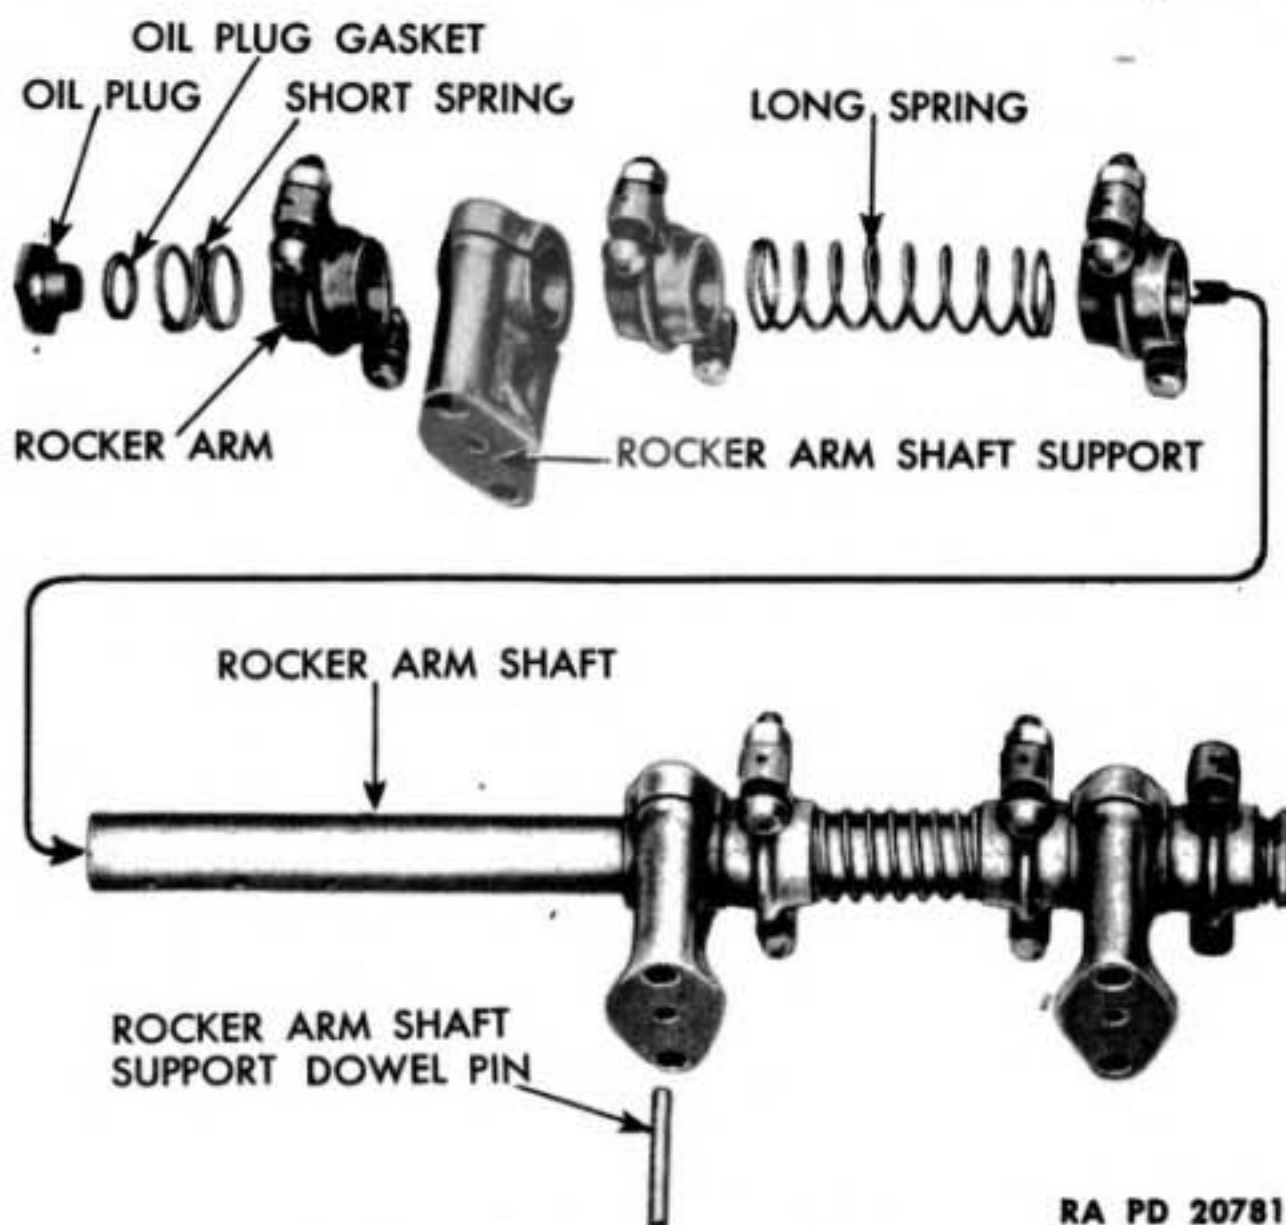

Figure 49 — Rocker Arm Shaft Components
a. **Disassemble.** Remove hexagonal-headed oil plug screwed into each end of rocker arm shafts (fig. 49). Slide two short springs,
two long springs, three rocker arm supports, and six rocker arms from shaft (fig. 49).
e. Assemble. Assemble plug with new gasket at one end of one rocker arm shaft (fig. 49). Assemble rocker arms, springs, and supports on shaft in the order shown in figure 49. Assemble plug with new gasket at other end of shaft, and tighten. Use same procedure to assemble other rocker arm shaft.